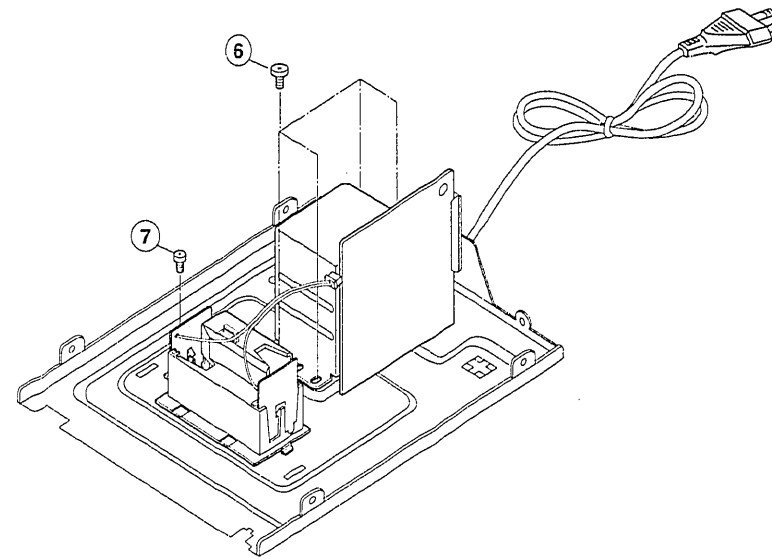

Fig. 5
- (1) Remove 2 screws ⑤ from the bottom chassis, and then disconnect 2 connectors ⑥.
5. **Removal of Transformer and Battery compartment (Fig. 5)**